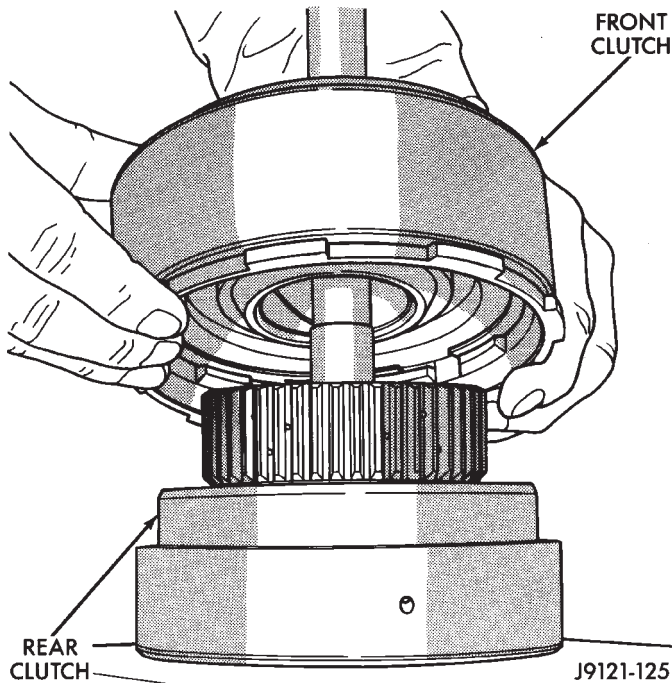

Fig. 15 Separating Front/Rear Clutch Assemblies
- (24) Lift front clutch off rear clutch (Fig. 15). Set clutch units aside for disassembly, cleaning and overhaul.